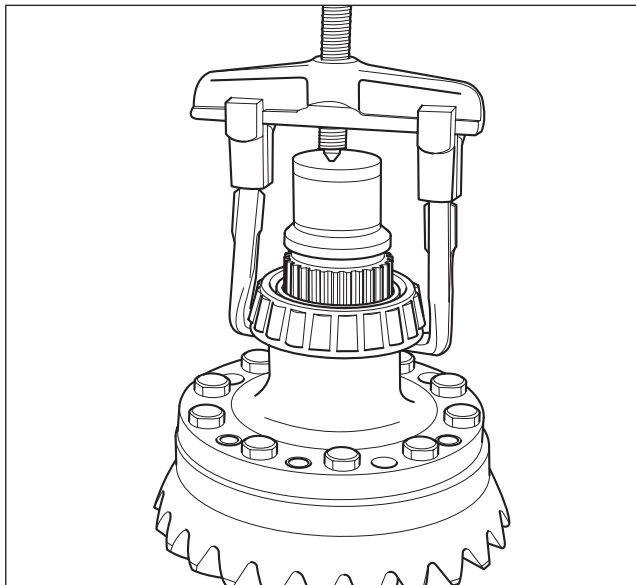

Fig. 2.37
8. Remove the differential casing side bearings using a standard bearing puller. (Fig. 2.37)